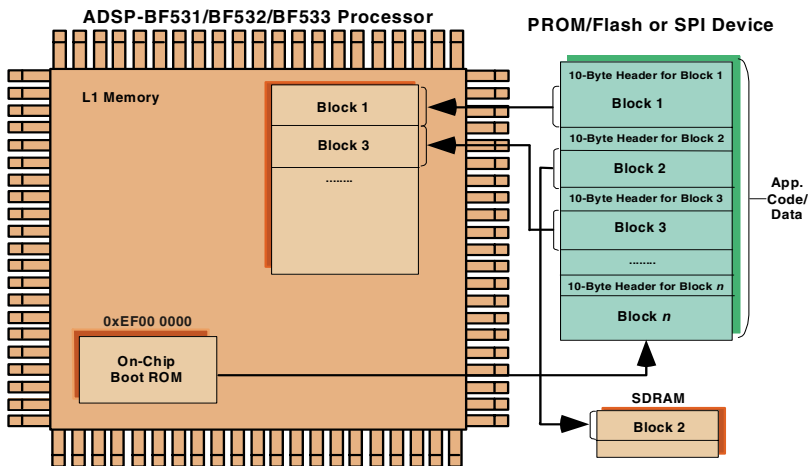

Figure 2-17. ADSP-BF531/BF532/BF533/BF534/BF536/BF537/BF538/BF539 Processors: Booting Sequence
- Eventually, if bit 4 of the SYSCR register is not set, performs the full boot sequence (Figure 2-17).
The loader converts the application code (.DXE) into the loadable file by parsing the code and creating a file that consists of different blocks. Each block is encapsulated within a 10-byte header, which is illustrated in Figure 2-17 and detailed in the following section. These headers, in turn, are read and parsed by the on-chip boot ROM during booting.